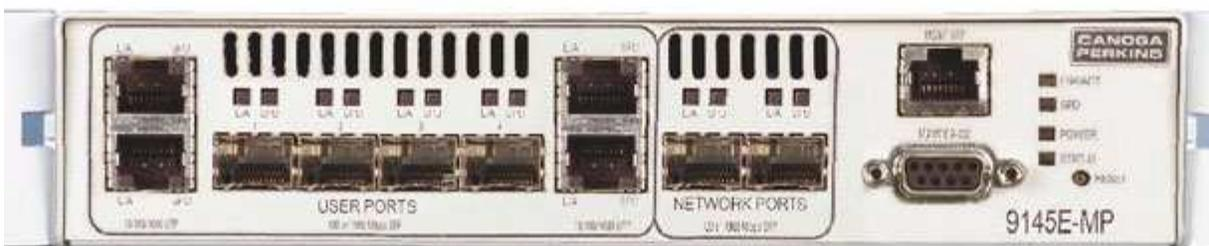

Figure 3-4 Mounting 9145EMP on Rack
3. Install two screws through each bracket into the threaded holes on the mounting rack (Figure 3-4). Torque the screws to the rack manufacturer's specifications.